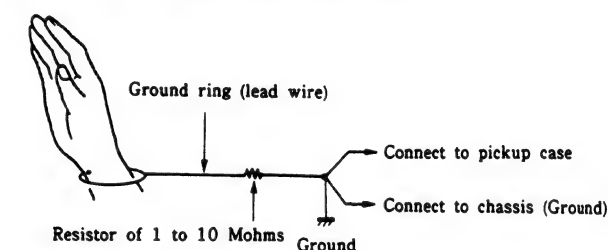

Fig. 13
## (2) Handling the unit mechanism (Fig. 13)
When handling the pickup mechanism and the unit mechanism, use a ground ring such as the one illustrated in Fig. 13. (A ground ring can be constructed using ordinary lead wire.)